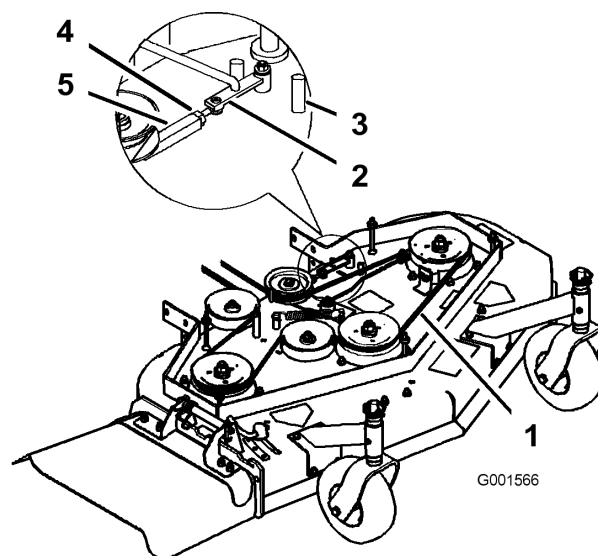

Figure 39
3. Loosen the locknut on the turnbuckle (Figure 39).
4. Rotate the turnbuckle toward the rear of the mower to increase the tension on the belt. Rotate the turnbuckle toward the front of the mower to decrease the tension on the belt (Figure 39).